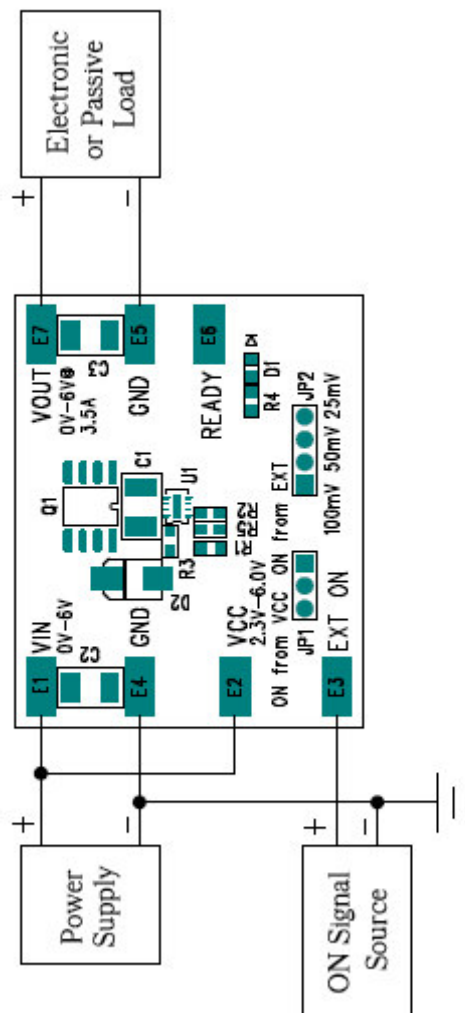

Fig. 1 DC872A Connection with External Equipment
4. Figure 1 illustrates DC872A connection with external equipment.